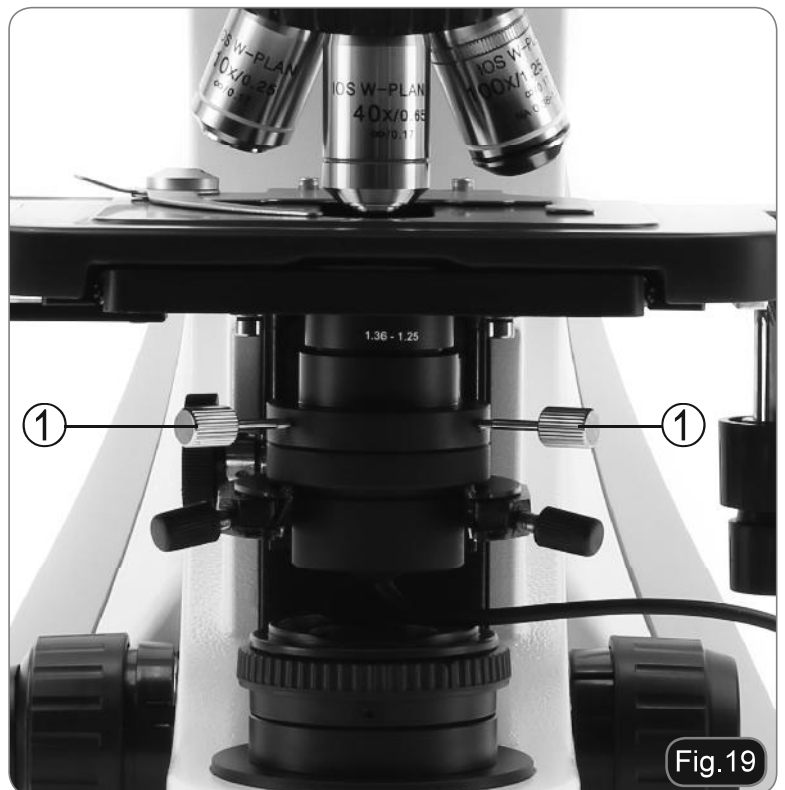

Fig.19
2. Use the condenser centering screws to move the ring of light into the center of the field of view ①. (Fig.19)